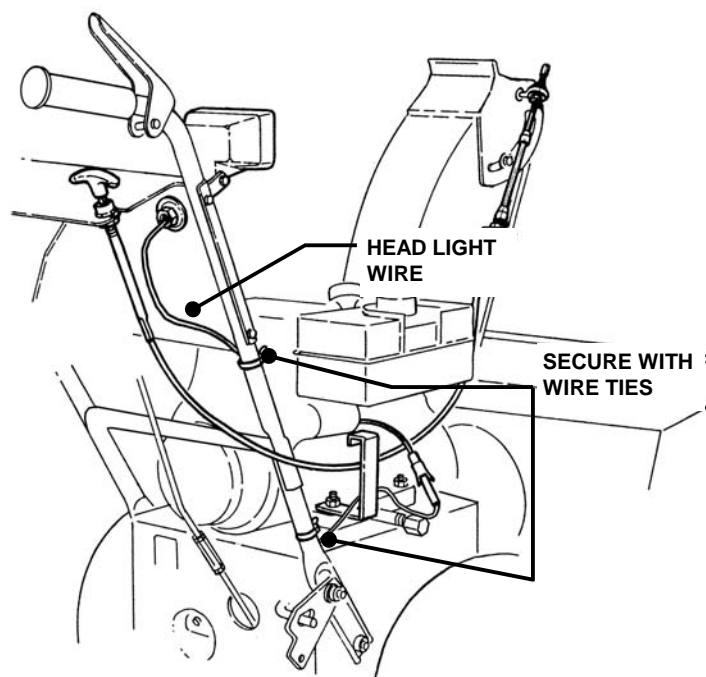

FIGURE 7
STEP 7: HEAD LIGHT: Use the wire ties supplied in kit to secure the head light wire to the handles. Connect headlight and engine harness together. See Figure 7.